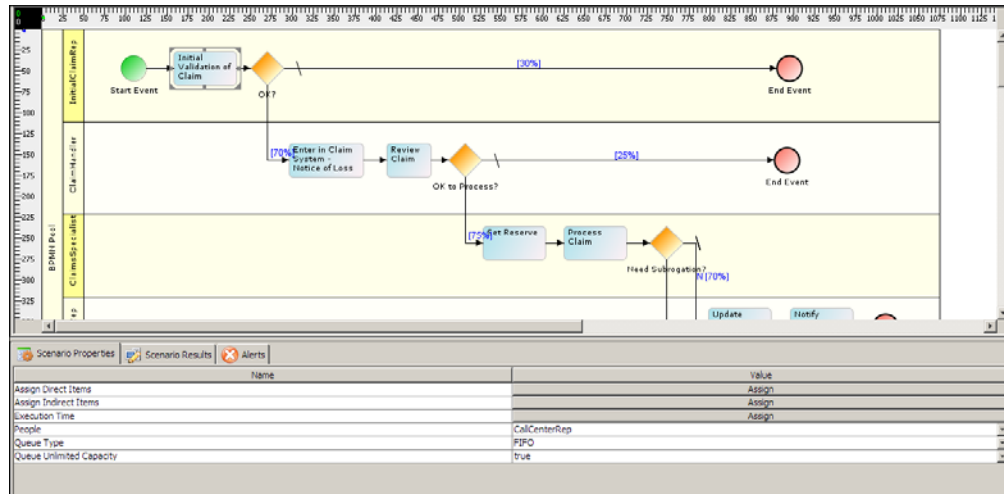

Figure 46: Scenario Properties
2. To assign a resource to an activity, double-click the activity in the graph canvas area. Properties of the activity are shown in the Scenario Properties panel in the bottom pane (see Figure 46).